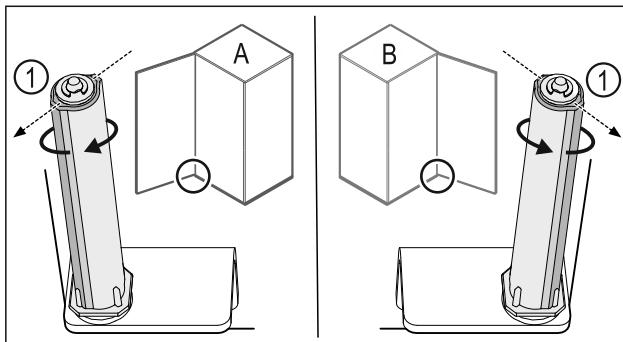

Fig. 48 Left stop (A) / right stop (B)
- ▶ Turn the closing system against the resistance until the bridge of the closing system Fig. 48 (1) shows outward.